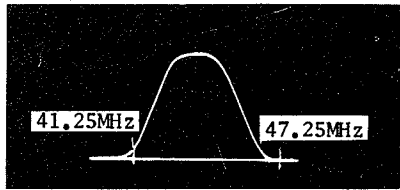

Figure 1
LEAKAGE CURRENT HOT CHECK (See figure 1.)
2. Connect a 1.5 k Ω , 10watts resistor, paralleled by 0.15 μ F capacitor, between each exposed metallic part on the set and a good earth ground such as a water pipe, as shown in figure 1.